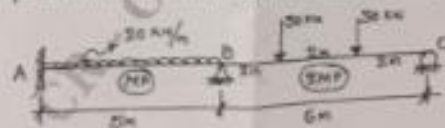

Fig.Q4(b)
- Calculate "plastic moment" for the beam as shown in Fig.Q4(b). Use load factor = 2. (08 Marks)